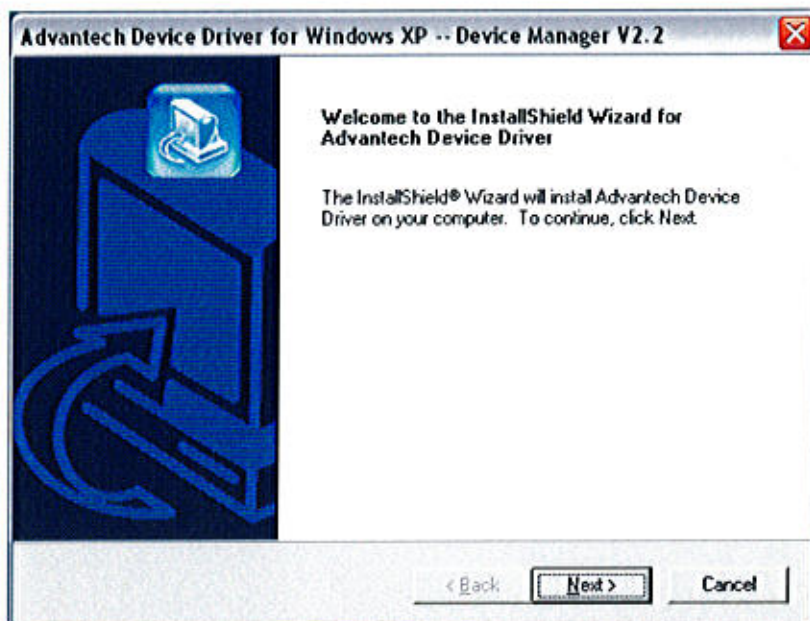

Figure 5 Device Manager Installation Window
4. Select 'Device Manager'. The following window will open (Figure 5).